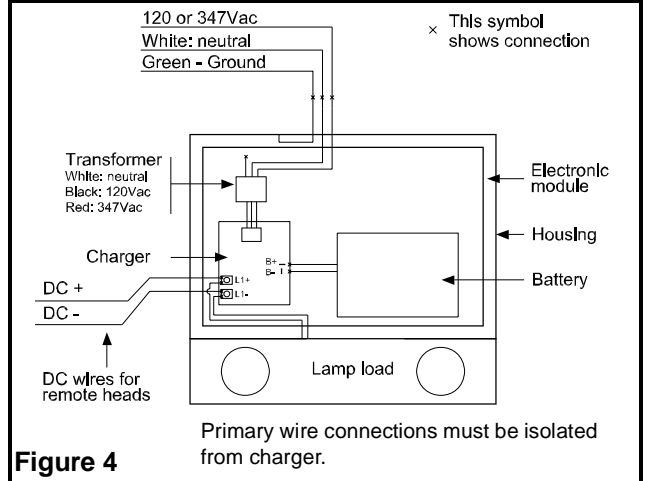

Figure 4
- a. Remove the lens-cover (3). Disconnect the lamps from terminal block (see figure 4) and remove the electronic module (7). Four screws secure the electronic module to the housing (8).
Auto-diagnostic models (see to figure 4):